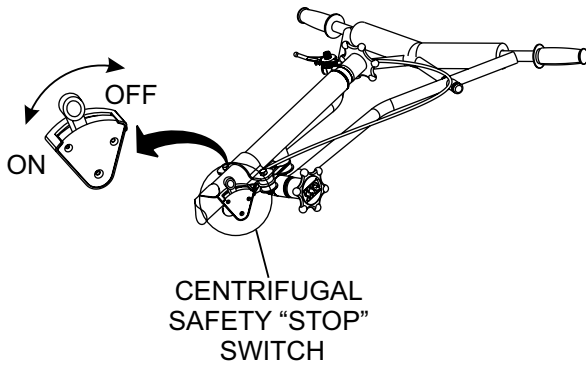

Figure 28. Centrifugal Safety "Stop" Switch (ON)
3. Place the **centrifugal safety "STOP" switch** (Figure 28) in the "ON" position.